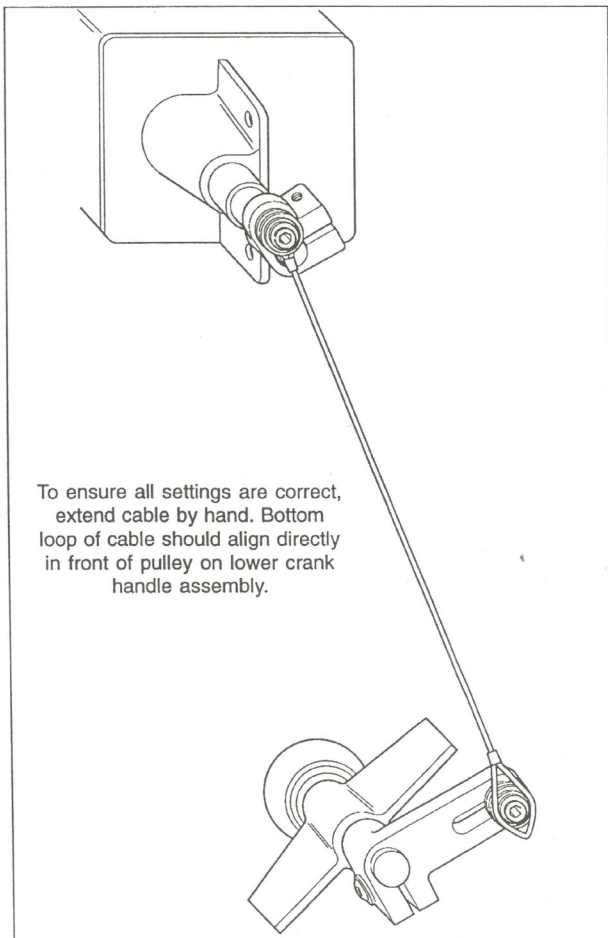

Figure 6 — Ensure that table height is set correctly.
- 12) To ensure that quill and upper and lower crank handle assemblies are in proper position, extend cable by hand. Bottom loop of cable should align with pulley on lower crank handle assy. (see figure 6).